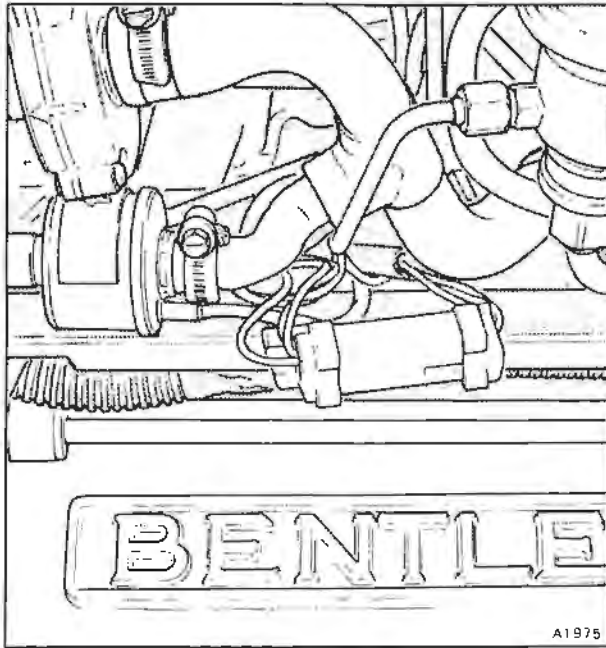

Fig. B3-22 Throttle position switch electrical connection
1. With the engine switched off, disconnect the three-way electrical plug to the throttle position switch (see fig. B3-22).